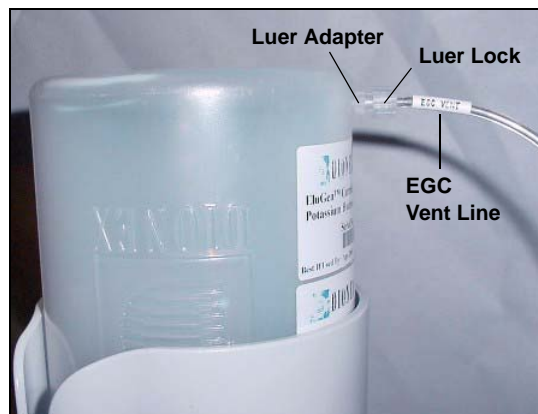

Figure 85. Installing the EluGen Cartridge Vent Line
5. Twist the luer lock and EluGen cartridge vent line into the luer adapter (see Figure 85).